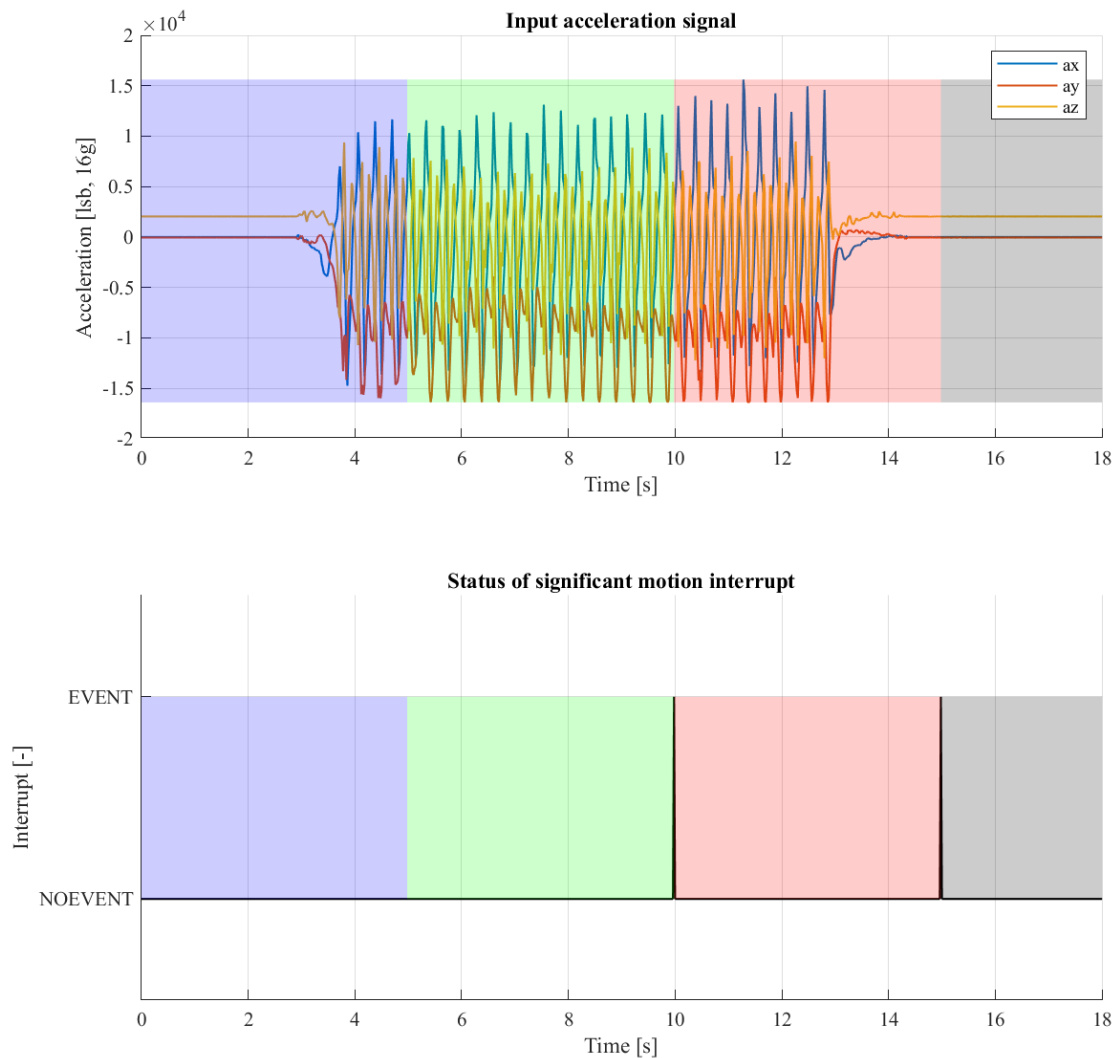

Figure 12 : Significant motion interrupt detection behavior for walking use-case
**Example** An example for the behavior of the significant motion detection for a walking scenario is depicted in Fig. 12, where `EXT.SIGMO_1.block_size` is set to 5 seconds (0x00FA).